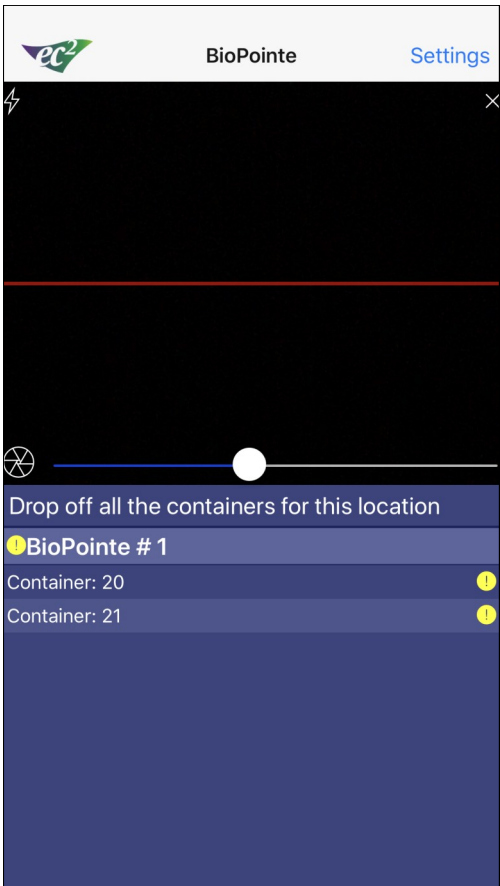

Fig 8
- g. Scan containers barcode to be delivered at the facility. See Fig 8